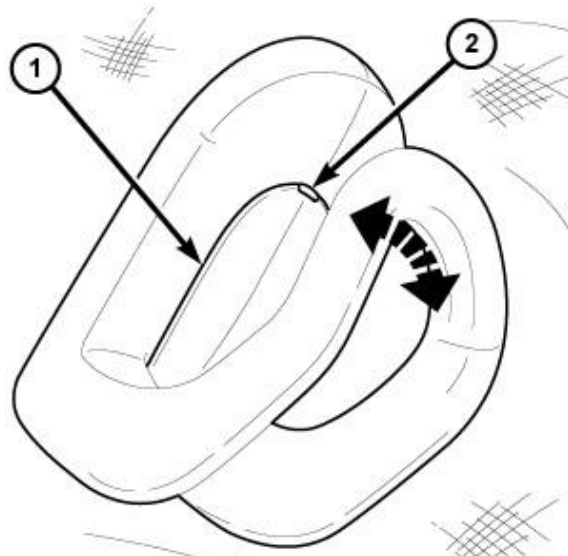

Figure 80 – Coat Hook
23. Using a small flat bladed tool, open the coat hook screw cover (2) then remove the screw and coat hook (Figure 80).
40. Position the coat hooks (5) onto the headliner and install the screws tightening securely into the mounting clips then close the screw cap fully (Figure 80).